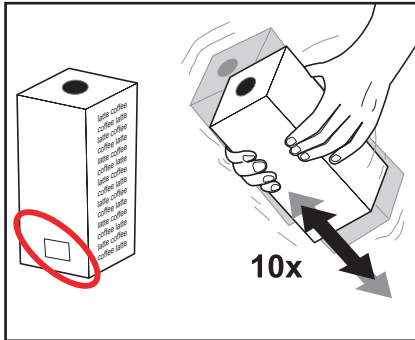

Fig. 18
**Caution:** Read the instructions on the product pack. Never use a damaged product pack. Do not use a product pack if the „Best before“ date has expired (fig. 18).
3. Shake the product pack at least 10 times (fig. 18).